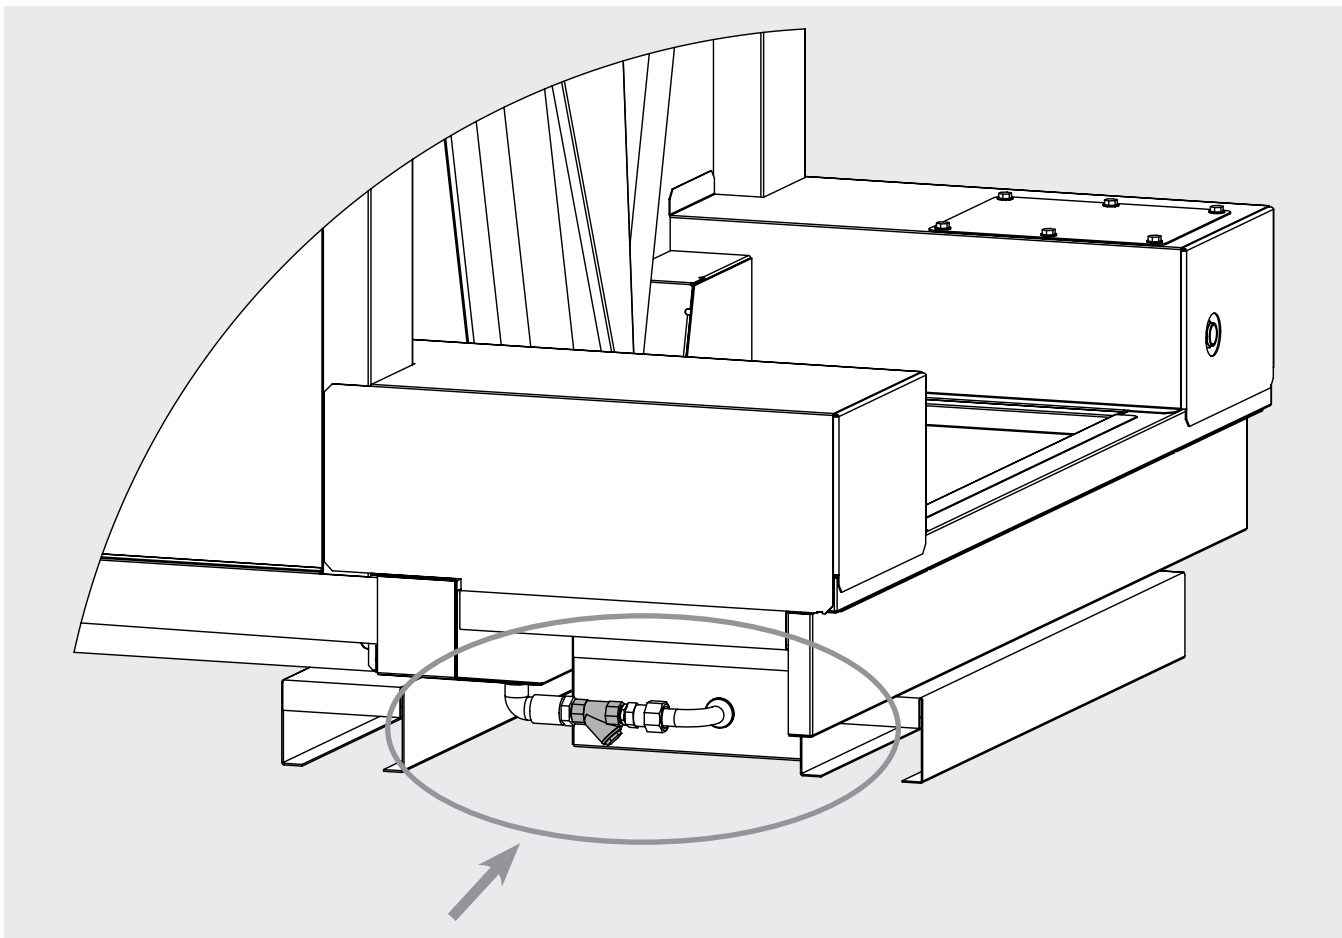

Figure 30
- 12.18.4 It is not necessary to remove the outer protective panels to service the pump filter. The filter can be accessed directly from the left side of the model. See Figure 30.